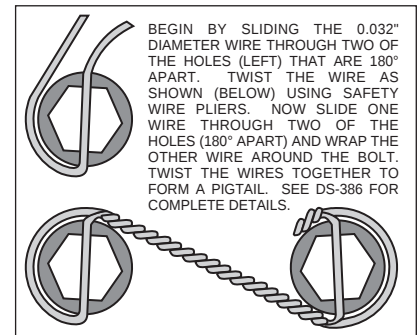

Figure 3. Safety Wire Diagram
configuration. Always use the same amount of shims on both the top and bottom caliper mounting bolts (14). Apply red *Loctite*® 271 to bolt threads (14) and torque to 40 ft-lb. For an added measure of security, the bolts may be safety wired using standard 0.032 inch diameter stainless steel safety wire as shown in Figure 3. Please refer to Wilwood's data sheet DS-386 (available at www.wilwood.com/Pdf/DataSheets/ds386.pdf) for complete safety wire installation instructions.
- Install the disc brake pads (16) and secure using retainer clip (17).